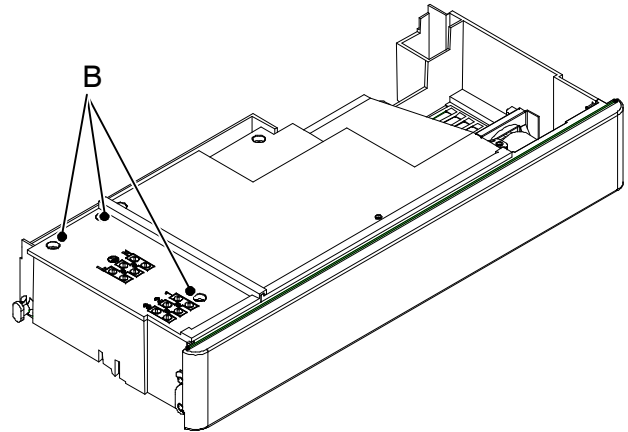

fig. 7.7
- 4 Loosen the screws B and remove the service panel (fig. 7.7).